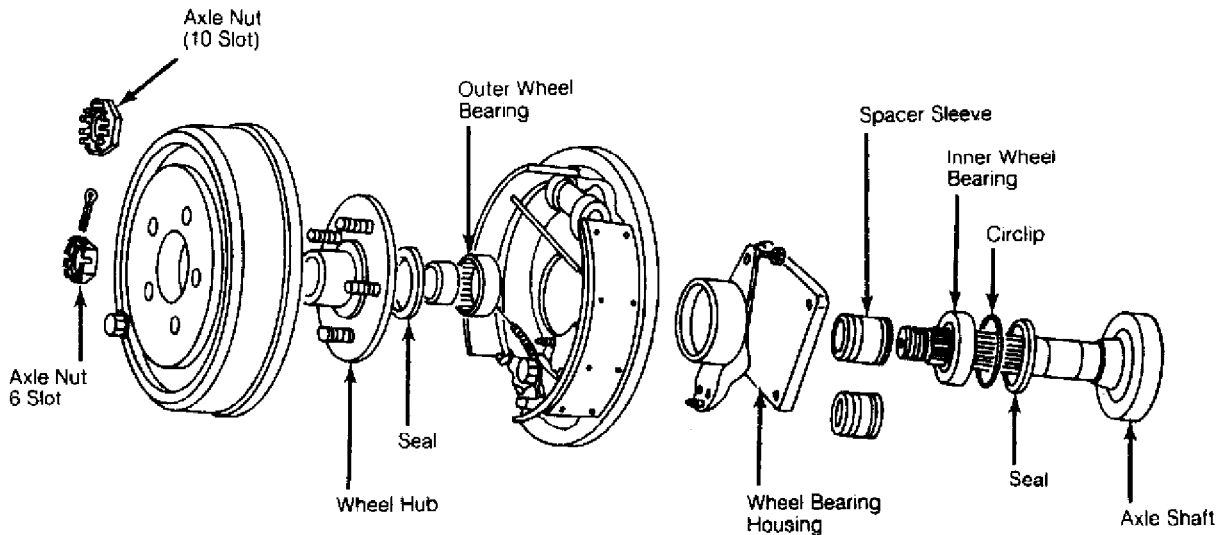

Fig. 2: Identifying Axle Shaft, Wheel Bearing & Hub Components
See Fig. 2.
2) Remove bolts retaining wheel bearing housing to trailing arm. Remove hex bolts at axle shaft-to-transaxle joint. Pull hub assembly and axle through trailing arm. Remove axle shaft-to-hub bolts. Separate axle from hub. See Fig. 2. Using Press Adapter (VW 411), press axle from bearing housing.